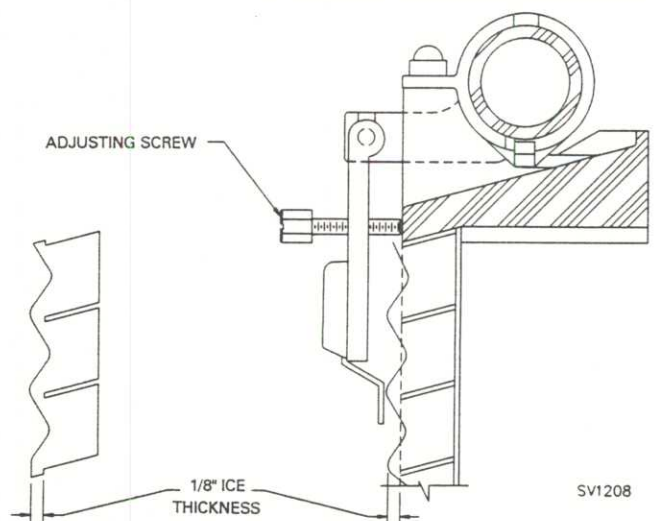

Figure 7. ICE THICKNESS CHECK
**ICE THICKNESS CHECK (Figure 7)**